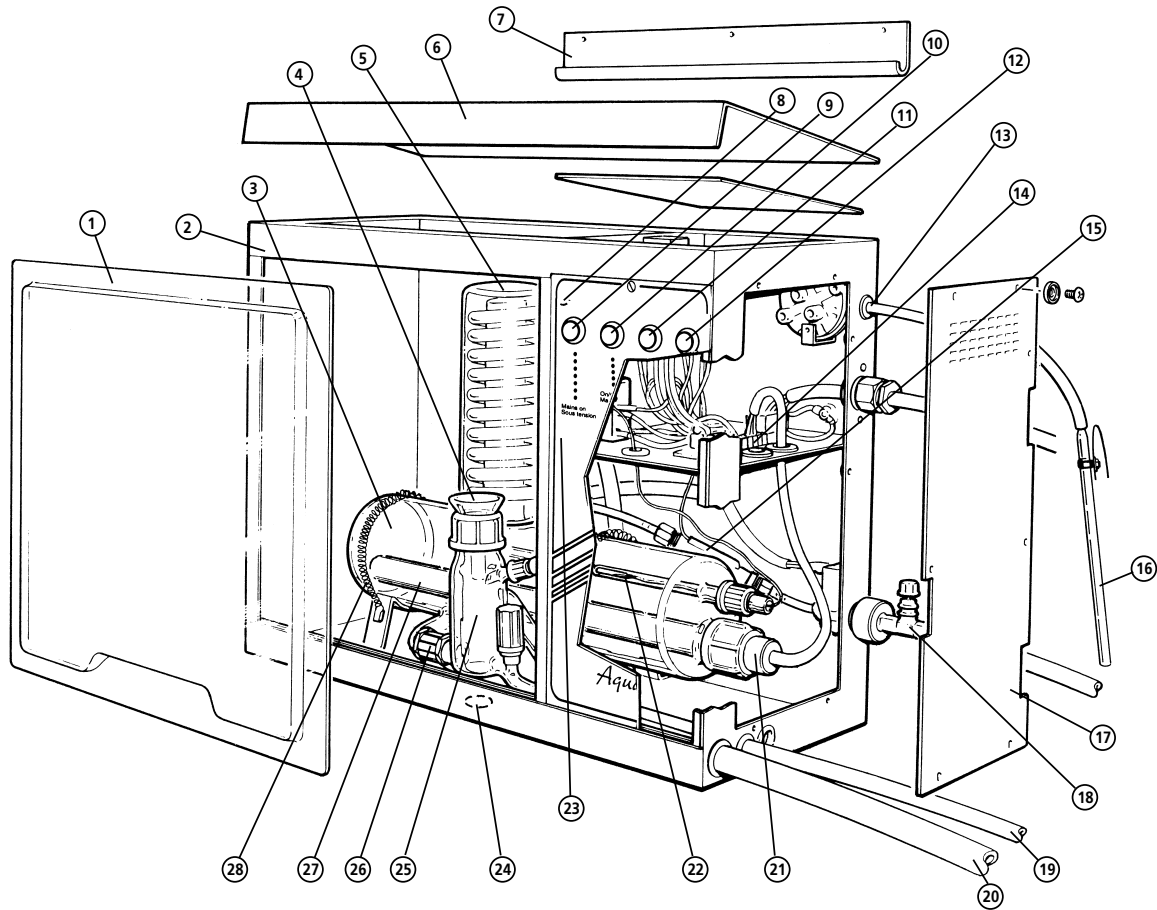

Fig 1: Major component parts A4000
Your Aquatron A4000 has been designed with ease of assembly specifically in mind, but before commencing assembly please study the illustration, fig. 1 on page 2 to familiarise yourself with the general layout. During assembly, follow the sequence of instructions and do not connect the mains electricity supply until directed.
- 3 Remove the perspex viewing screen, item 1 fig. 1 by using the finger recess to lift the screen out of the lower cabinet groove, then remove the internal packaging which has protected the glass boiler during transit. Also sever the temporary tie holding the two boiler retaining springs, item 28 in place.
- 4 Remove the cabinet end plate, item 17 by unscrewing the six retaining screws and 'shake proof washers'. Similarly, unscrew the six countersunk screws to remove the cabinet roof.
- 16 Connect the cold water supply to the mains water inlet, item 18, fig. 1. Note the tubing selected should have a safe working pressure of at least equal to the pressure of the water supply and should be adequately secured by hose clips.
- the dummy shorting plug is fitted to socket item 8, fig. 1.
- 6 Turn on the mains water supply and using the needle valve item 18 fig. 1 on the side of the cabinet, adjust the flow rate to approximately 1 litre/min.